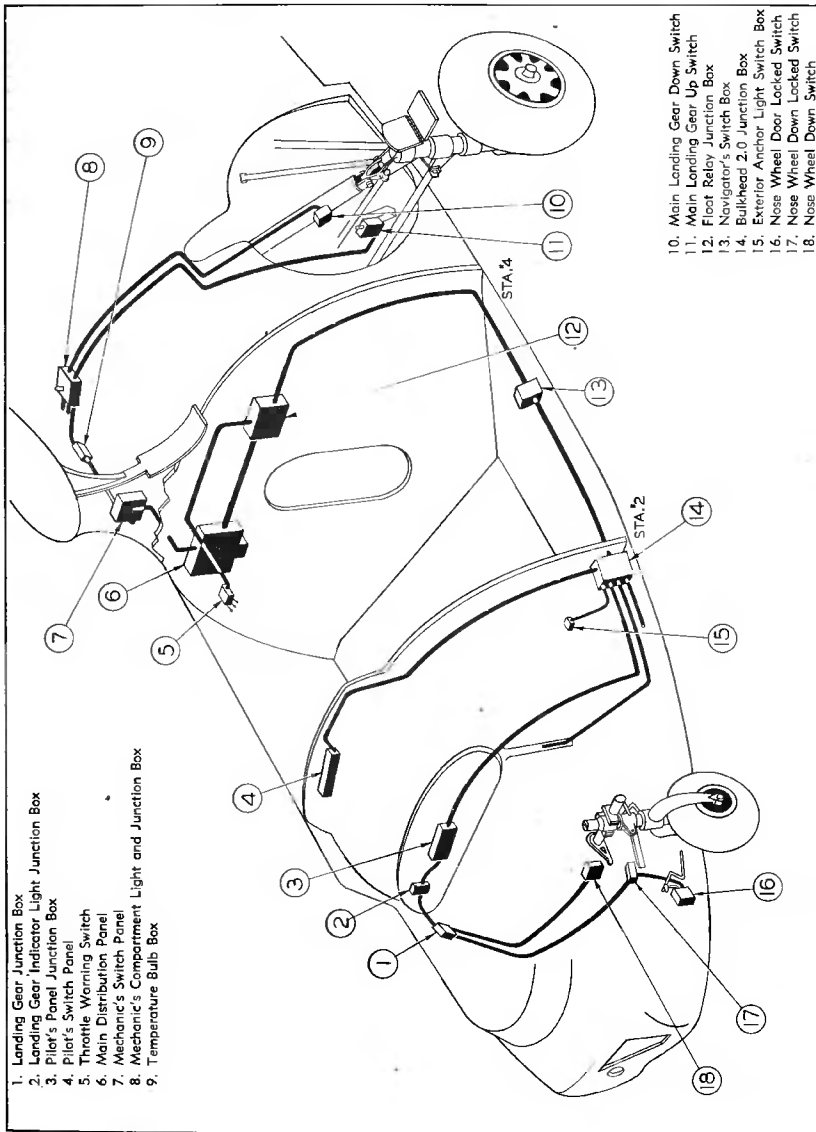

Figure 28—Landing Gear Indicator System
(1) Check elevator, rudder, and aileron tab settings.
(2) Check emergency hydraulic hand pump handle in operating positions.
(3) Move landing gear indicator switch to "INDICATOR LIGHT." (See figure 28.)
(4) Check to make certain rudder control is unlocked and rudder operates freely.
(5) Check automatic-pilot "OFF."
(12) Propellers should be set for 2700 rpm (maximum 2750 rpm, surge). Manifold pressure should be 48 inches Hg maximum). (grade 100/130 fuel).
(14) Reduce rpm immediately after take-off to 2550. Maintain 42 inches Hg manifold pressure.
(15) Raise wheels as soon as possible after take-off.
(16) Check "WHEELS UP" and "WHEEL DOOR LOCKED" by moving indicator light switch to "INDICATE."
(17) Move landing gear indicator switch to "WARNING LIGHT."
(19) Turn off lights which do not show functional parts.